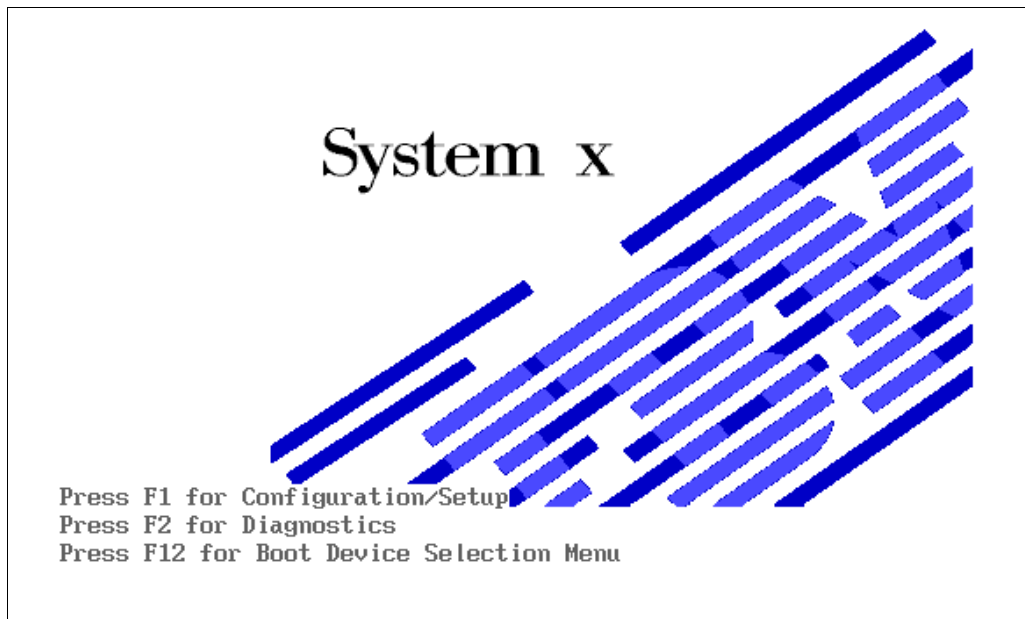

Figure 20-28 Press F1 to enter BIOS configuration menu
- a. Press F1 when the system is booting up as shown in Figure 20-28 to enter BIOS configuration menu.